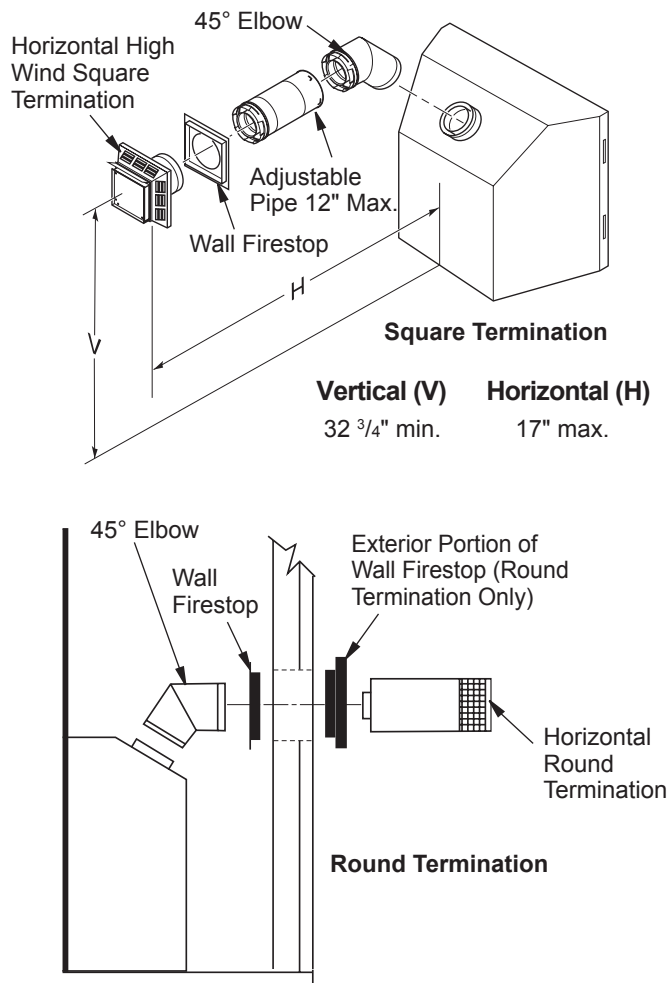

Figure 14 - Horizontal Termination Configuration for Square or Round Terminations
**IMPORTANT:** Horizontal square terminations require only inner portion of wall firestop. Horizontal installations using round termination require exterior portion of wall firestop (see Figure 14, page 10).
1. Set the fireplace in its desired location and determine the route your horizontal venting will take. Do not secure the fireplace until all venting has been installed. Some installations require sliding the fireplace in and out of position to make final venting connections. Figures 14 through 18 on pages 10 through 12 show different configurations for venting with horizontal termination that will help you decide which application best suits your installation. Check to see if wall studs or roof rafters are in the path of your desired venting route. If they are, you may want to adjust the location of the fireplace.
Figures 14 through 18 show different configurations and alternatives for venting with horizontal termination. Each figure includes a chart with critical minimum and maximum dimensions which **MUST** be met. **IMPORTANT:** Remember that a horizontal run of venting must have a 1/4" rise for every 12" of run toward the termination.